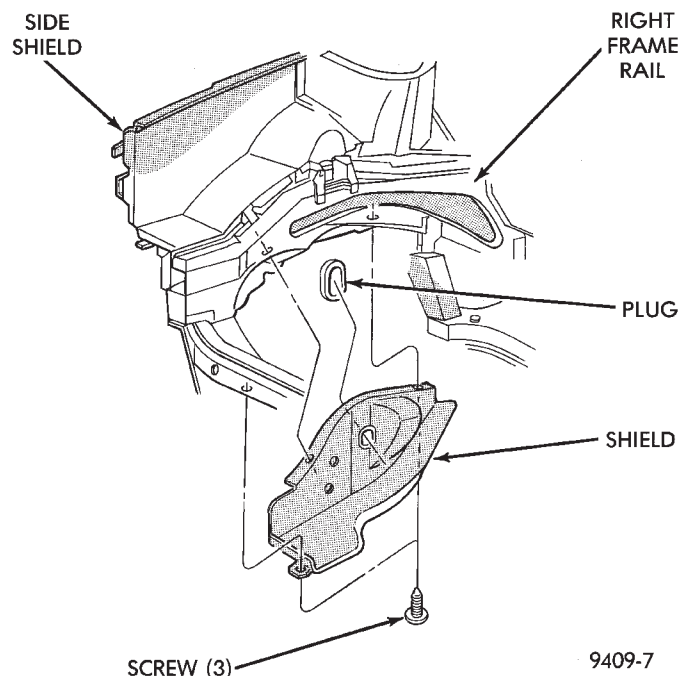

Fig. 98 Right Inner Splash Shield
(1) Remove accessory drive belts. Refer to Group 7, Cooling System for procedure outlined in that section.
(2) Raise vehicle on a hoist and remove right inner splash shield (Fig. 98).